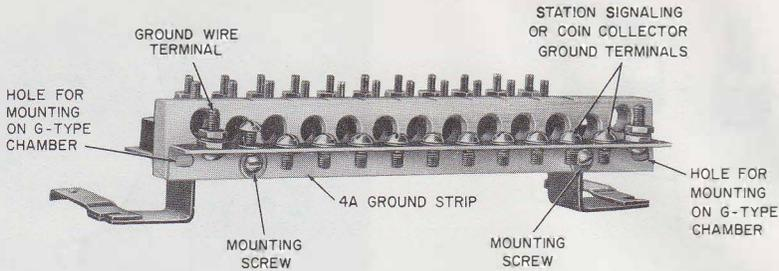

Fig. 68—Typical Installation of 4A Ground Strip
7.05 The 4-type ground strips are angular-metal brackets equipped with terminal screws and two binding posts. They are used with 102-type adapters when installed with connecting blocks (Table G). See Fig. 68 and 69 for typical 4-type ground-strip installations.